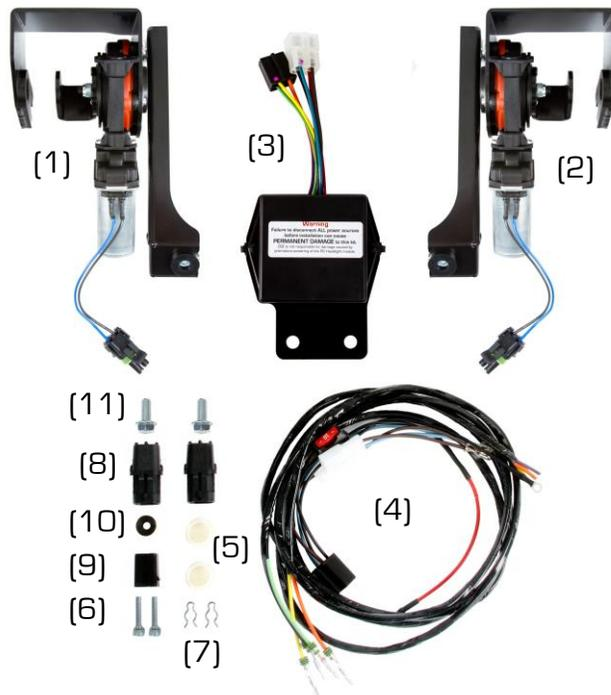
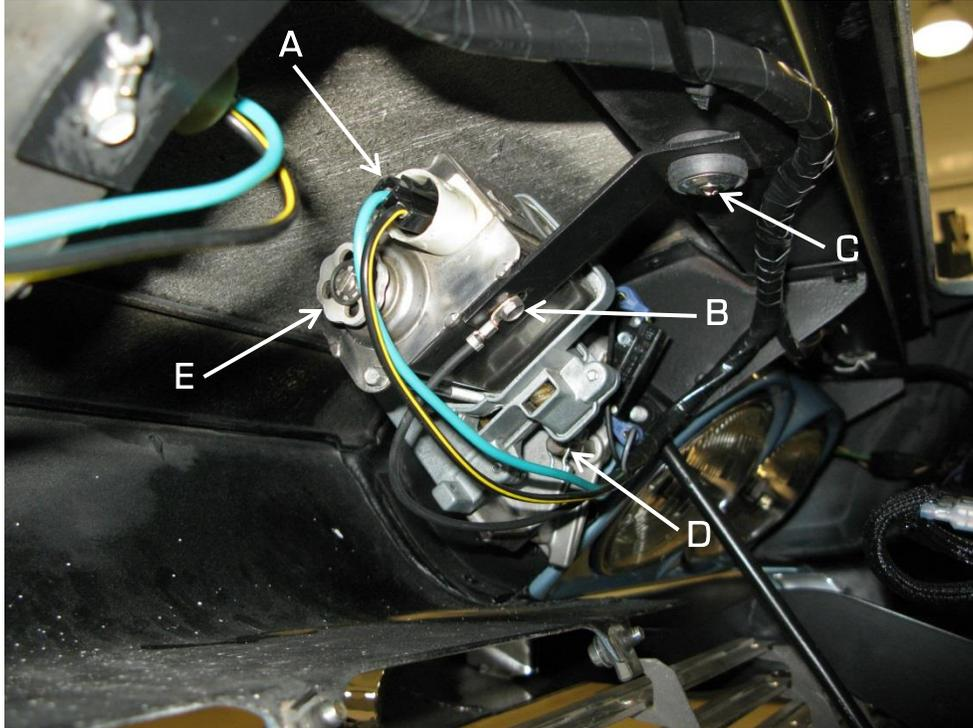

Figure 1
Figure 3
5. Disconnect the original headlight motor wiring connectors, this will consist of one two-wire plug (Figure 3 Item A) and a separate ground wire (B) attached to the motor housing. Remove the motor support bracket rubber mount screws (C) that are located in the header panel. Remove the hairpin retainer clips (D) from the motor support studs. Turn the knurled knob (E) on the inboard side of the motors until the gear seems to turn freely, this will remove any preload from the motors. Remove the motor assemblies by sliding them off the pivot shafts towards the center of the car. It may be necessary to gently wiggle the motor assemblies to release tension between the motors and the pivot shafts. With the motor assemblies removed, ensure that the plastic bushings that are located between the motor brackets and the headlamp door pivot shafts (the same bushing that is supplied in the kit (identified as item 5 in Figure 1) are in the brackets. If they did not stay in the motor brackets when removed, remove them from the headlight door pivot shafts or they will interfere with the installation of the new motors.
6. Identify the driver's side actuator assembly (Item 1) from Figure 1 and install a pivot bushing (Item 5) into the mounting bore. Install the assembly onto the driver's side headlight door pivot shaft. Rotate the headlight door open until the rectangular part of the shaft can be inserted into the rectangular hole in the motor pitman arm. Line up the slot in the motor bracket with the hairpin clip shaft and slide the actuator assembly in place. Install a hairpin clip (Item 7) on the shaft and a rubber mount screw (Item 6) into the rubber mount, attaching it in the same location as the original motor. See Figure 3. Repeat this procedure to install the passenger's side actuator assembly (Item 2). **NOTE: Do not attempt to move the pitman arms on the actuators by hand as this could cause permanent damage to the actuators.**